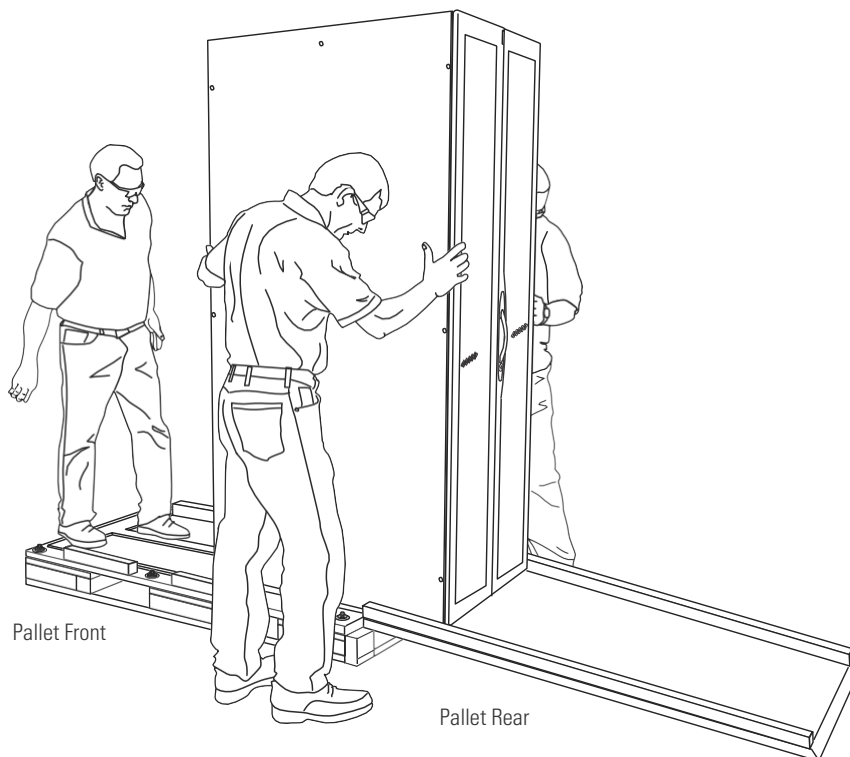

Figure 10. Unloading the System
5. Slowly roll the system toward the rear of the pallet. With the system supported on each side, continue rolling the system down the center of the ramp until the system is clear of the pallet. See Figure 10.